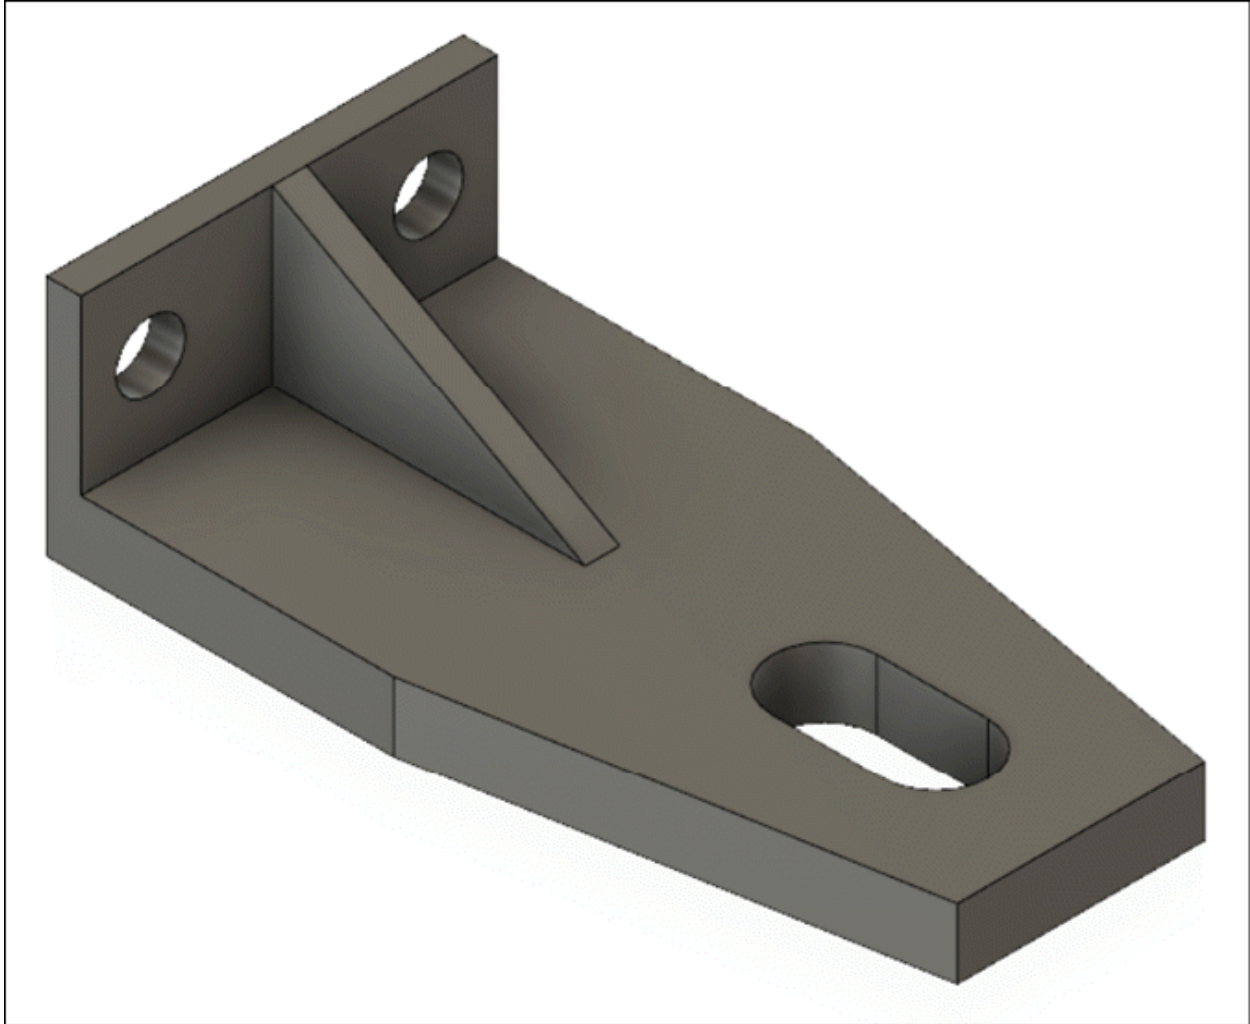

Figure-24. Final model of practical 2
- Click **OK** button of **RIB** dialog box to finish the process. The model will be displayed as shown in Figure-24.